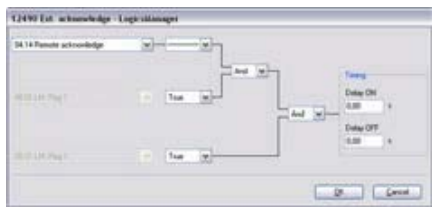

Fig. 202: LogicsManager function "Ext. acknowledge"
3. ➤ Configure the LogicsManager function "Ext. acknowledge" as shown in (Fig. 202).